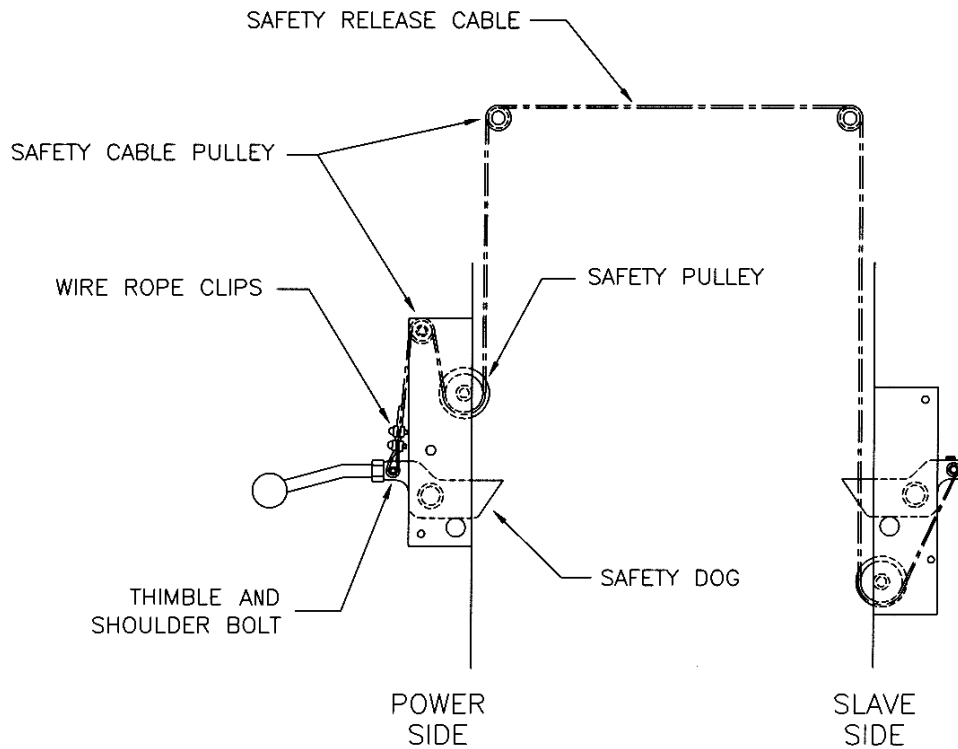

Figure 7 – Safety Release Cable Routing and Adjustment
3. Refer to **Figure 7** for safety release cable routing. The end of the cable that has a collar attaches to the slave side tower. The free end is fixed to the power side tower using two (2) wire rope clips.
8. Guide the cable up under the large pulley and then over the small pulley towards the safety dog as shown in Figure 7. Wrap the cable around the thimble (attached to the safety dog with a 3/8" x 1 1/2" lg. shoulder bolt) and then clamp it using two (2) wire rope clips. Do not tighten fully at this stage.